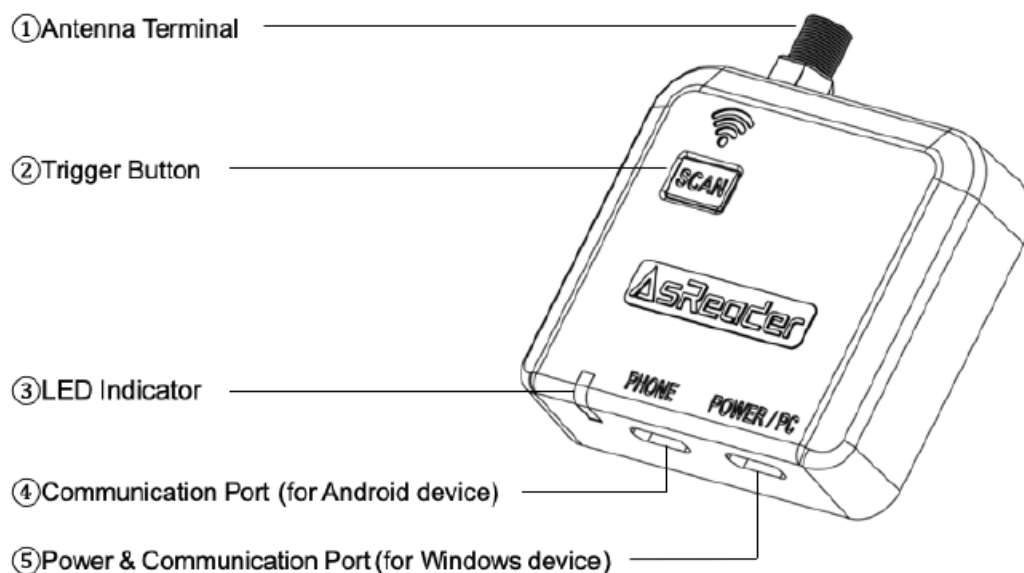

FIG. 1-3-1 Appearance (Front)
- Use a USB Type-C data cable to connect the ASR-P37U to a power adapter via the Power & Communication Port (see FIG. 1-3-1⑤). The LED Indicator flashes slowly when power on is successful (see FIG. 1-3-1③) and there will be two buzzing prompts.
With the ASR-P37U powered on, put RFID tags close to the Antenna attached to it(see FIG. 1-3-1①). Then, press the “SCAN” trigger button (see FIG. 1-3-1②). The blue light flashes quickly and the data will be entered at the cursor on the screen of the connected device. Press the trigger button again to stop reading.
3. Connect the Android device and the ASR-P37U with USB Type-C to USB Type-C data cable via the Communication Port (see FIG. 1-3-1④). The LED Indicator stays ON when the connection is successful.
4. When using while charging the Android device, please connect a USB hub to the Power & Communication Port (see FIG. 1-3-1⑤) of the ASR-P37U using the USB Type-C to Type-C data cable, and then connect the USB hub to the Android device. Then, connect the power adapter to the USB Hub to supply power to the Android device.